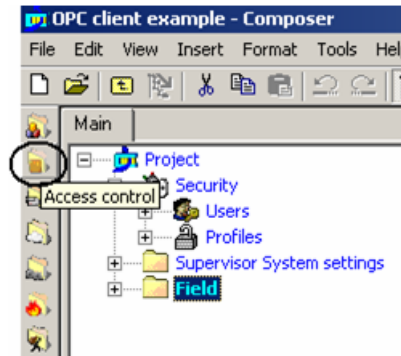
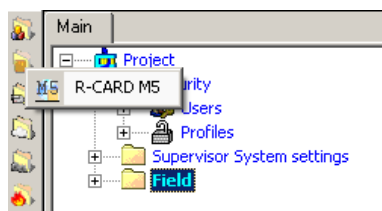

Fig. 8 'Access control' icon
Fig. 9 Adding a generic OPC subsystem
2. In the menu Access Control (Fig. 8), select the 'R-Card M5' subsystem to add the new node (Fig. 9).